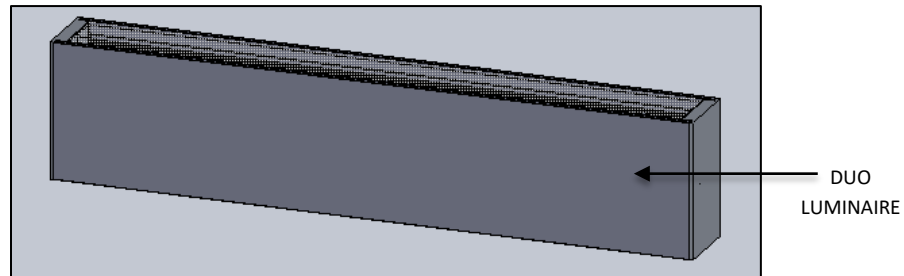

FIG.2 - DUO LUMINAIRE (PRE-ASSEMBLED)
1. DUO LUMINAIRE. (Pre-assembled as shown in FIG. 2)